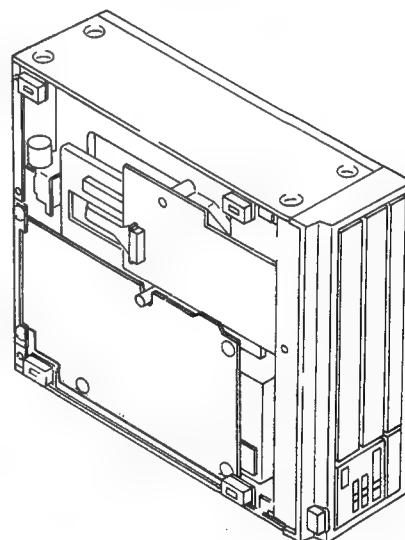

Fig. 9-4
- Adjustment should be performed with the player set vertically. (See Fig. 9-4.)